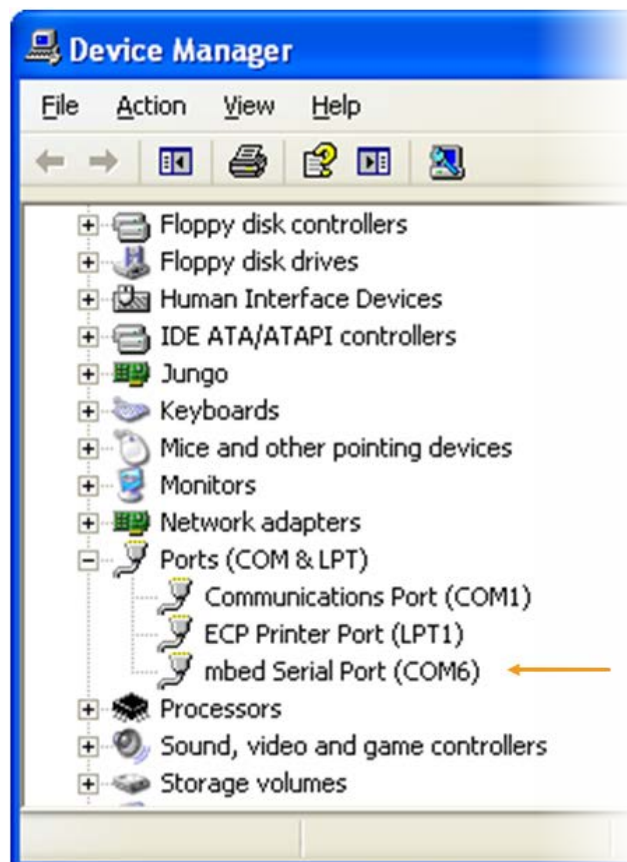

Figure 3. COM port associated with the MT7682 HDK
- 3) In **Device Manager**, navigate to **Ports (COM & LPT)** (see Figure 3).
- 4) A new **COM** device should appear under **Ports (COM & LPT)** in **Device Manager**, as shown in Figure 3. Note the **COMx** port number of the serial communication port, this information is needed to send command and receive logs from the COM port. Virtual COM port is connected to the board through the **UART0** of the MT7682, see section 4.5, “Extension connectors”. The **mbed Serial Port (UART0)** is applied to flash the board and log the outputs.